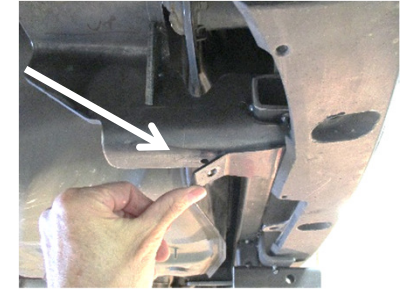

Figure 4
- Reinstall the underbody panel** using (4 of 6) push-pin rivets, (4) threaded fasteners, and (1) hex nut.
- Secure Fascia tabs** -Using (2) cable ties provided, secure (2) rear fascia tabs to bottom of hitch bracket. Trim excess ends of cable ties. **See Figure 4**.